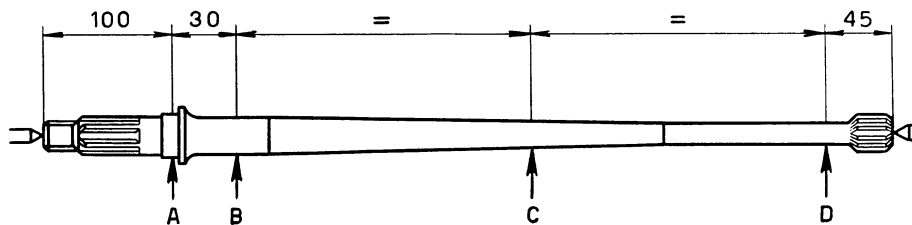

Fig. 132. - Diagram for runout inspection of axle shafts.
- a) at points A and B (fig. 132), machined surfaces, the out-of-true is in excess of **.0012" (0.03 mm)**;